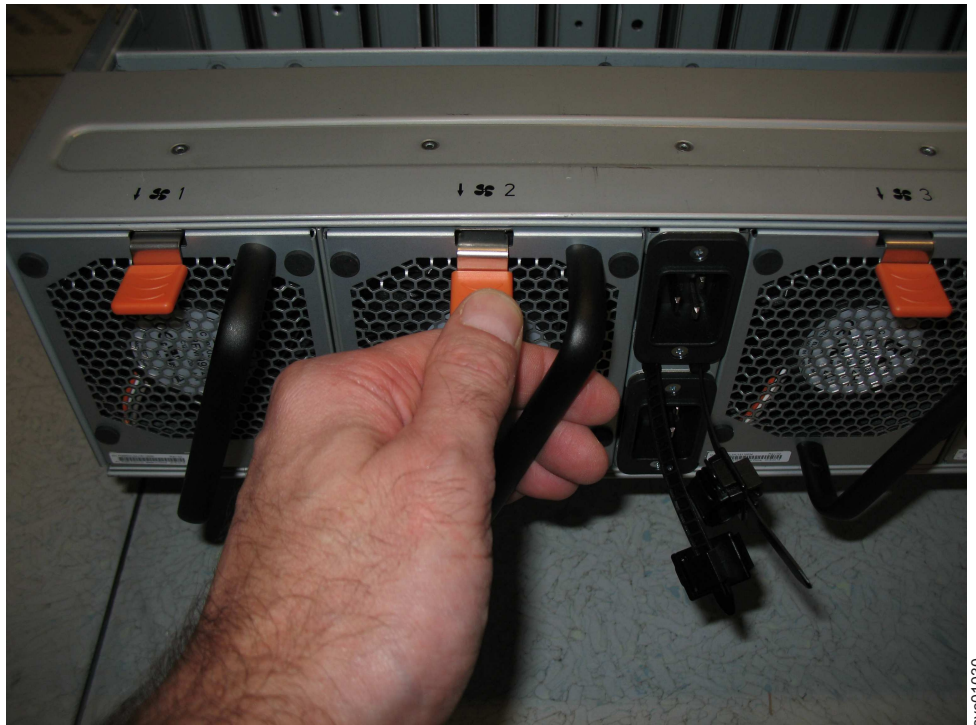

Figure 118. Fan module release tab
2. Press the release tab on the fan module, as Figure 118 shows.